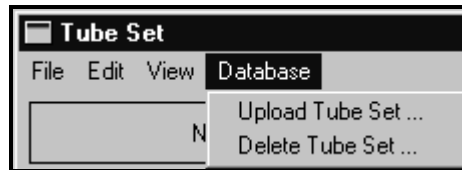

Figure 3-73. Tube Set > Database Menu
As shown in Figure 3-73, the Database menu contains two (2) choices. They are Upload Tube Set... and Delete Tube Set....